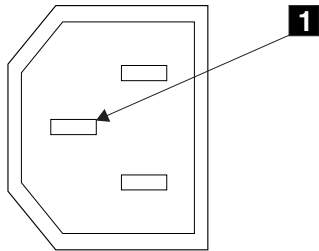

Figure 4. Ground pin
6. Check for continuity between the frame of the SAN Volume Controller 2145-8F2 and the ground pin of each main power connector. The ground pin is shown as **1** in Figure 4.